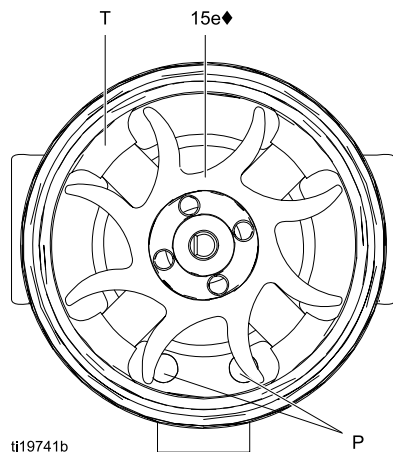
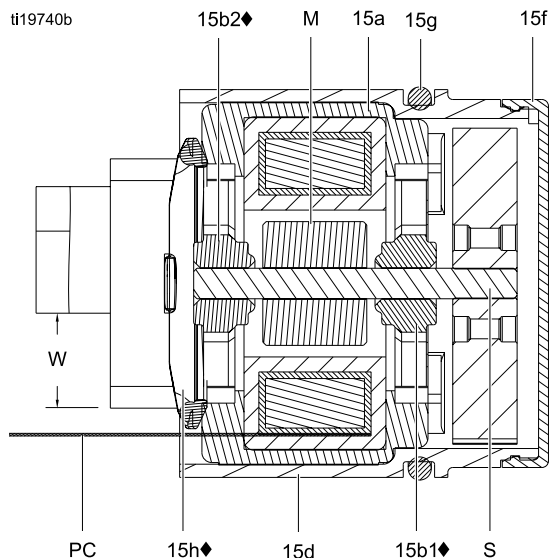

Figure 34 Fan Orientation
Figure 35 Alternator Cross-Section
12. Hold the coil assembly (15a) on a workbench with the fan end facing up. Press the fan (15e♦) onto the long end of the shaft (S). The fan blades must be oriented as shown.
13. Carefully press the coil assembly (15a) into the front of the housing (15d♦). The 3-wire connector (PC) must be positioned below the wider notch (W) of the housing tabs, as shown in Fig. 35. Be sure the coil alignment pins (P) are positioned as shown in Fig. 34.
14. Rotate the fan (15e) so its blades clear the four bearing tabs (T) at the back of the housing.